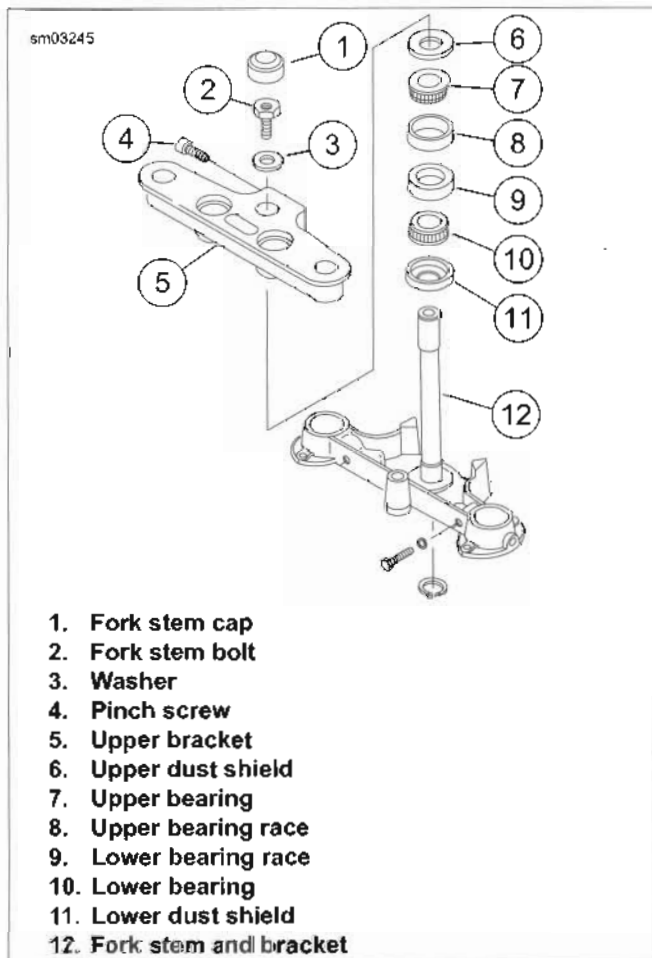

Figure 2-83. Steering Head: FLSTC, FLSTF/B, FLSTN, FLS
4. See Figure 2-83. Remove the brake hose bracket from the bottom of the fork stem and bracket (12).
5. Remove the fork stem cap (1). Loosen pinch bolt (4) and remove fork stem bolt (2). Remove washer (3) with the handlebar and upper bracket (5) assembly.
6. Remove the fork stem and bracket (12) from the steering head. Remove the upper dust shield (6).
7. Remove upper bearing (7).
1. See Figure 2-83. Insert the fork stem and bracket assembly (12) (with lower dust shield and bearing) into the frame steering head. Install the upper bearing (7) and dust shield (6).
2. Install the upper bracket (5), a **new** washer (3), and fork stem bolt (2). Tighten the fork stem bolt until the bearings have no noticeable shake. Fork stem must turn freely from side to side.